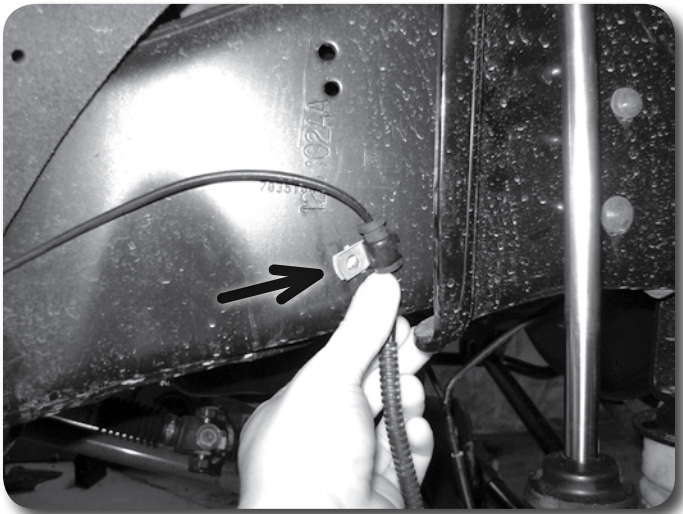

Figure 15B
31. Locate the provided wire clamps, 1/4" self tapping bolts and mountable zip ties (tree on the end). With the suspension at full extension (hanging from shocks) ensure that the ABS line still has some slack from the new mounting point on the frame to the axle. Fasten the line to the frame with the wire clamp and 1/4" self-tapping bolt. **Figure 15B** Attach the loose end inside the inner fender with the mountable zip tie. Note: The rubber collar on the ABS line can be slid on the line using a little silicone spray.